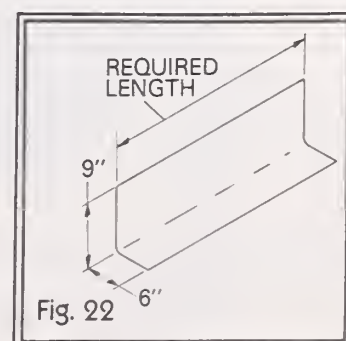

Fig. 22
3. Cut a piece of flashing 15 inches wide and the required length to cover the defective flashing. Fold the piece to make one side 6 inches wide and the other 9 inches wide (fig. 22).